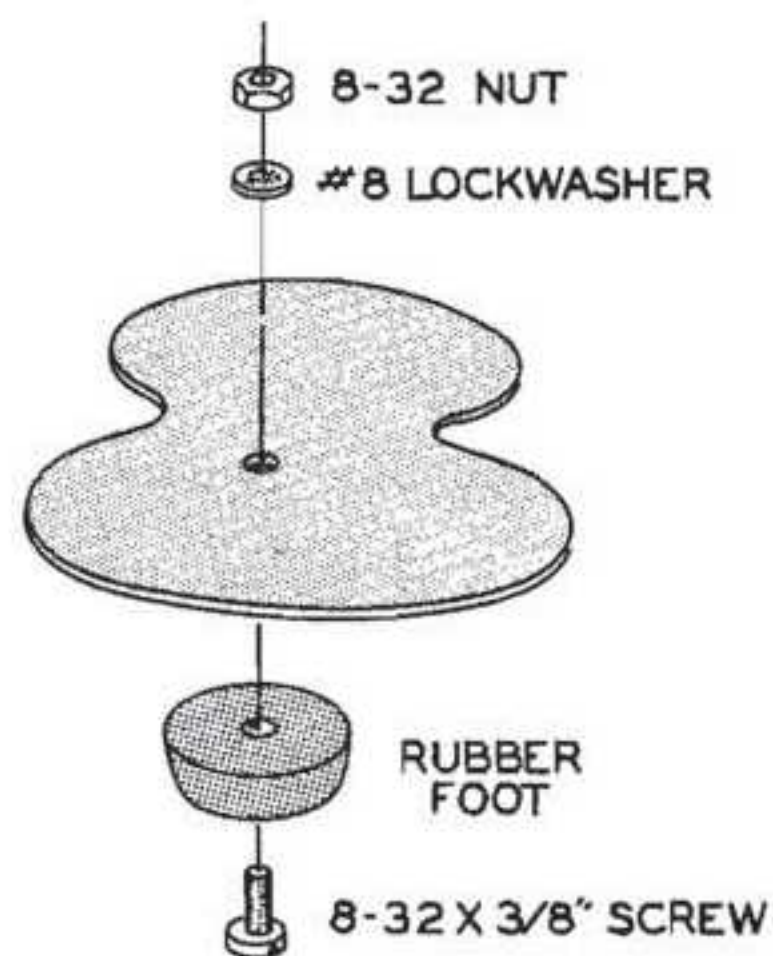

Figure 29
- () Install the four large rubber feet on the cabinet. Use 8-32 x 3/8" hardware. Insert a screw through each rubber foot and then through the cabinet bottom. Use #8 lock-washers under the nuts and tighten securely. See Figure 29.